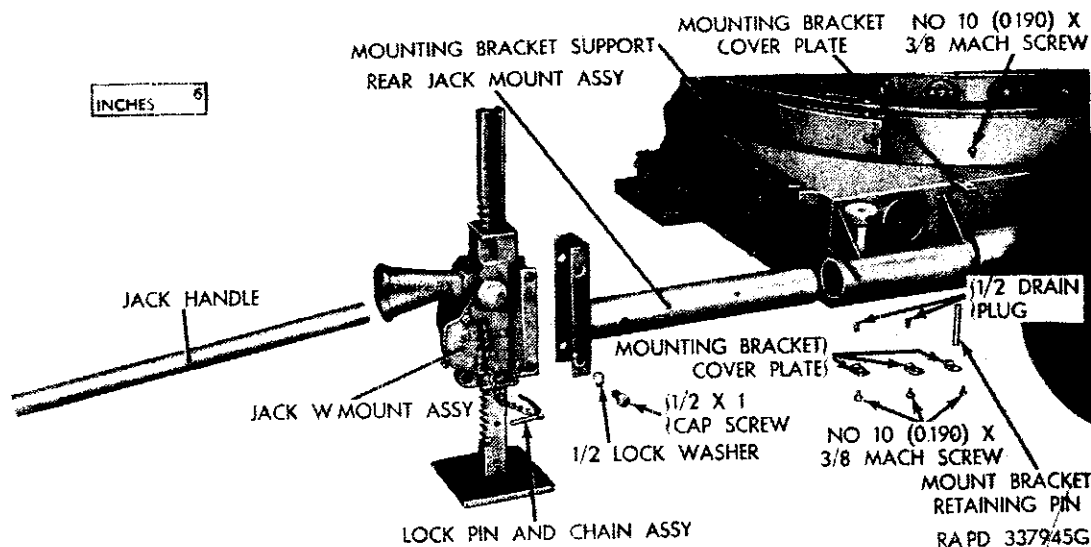
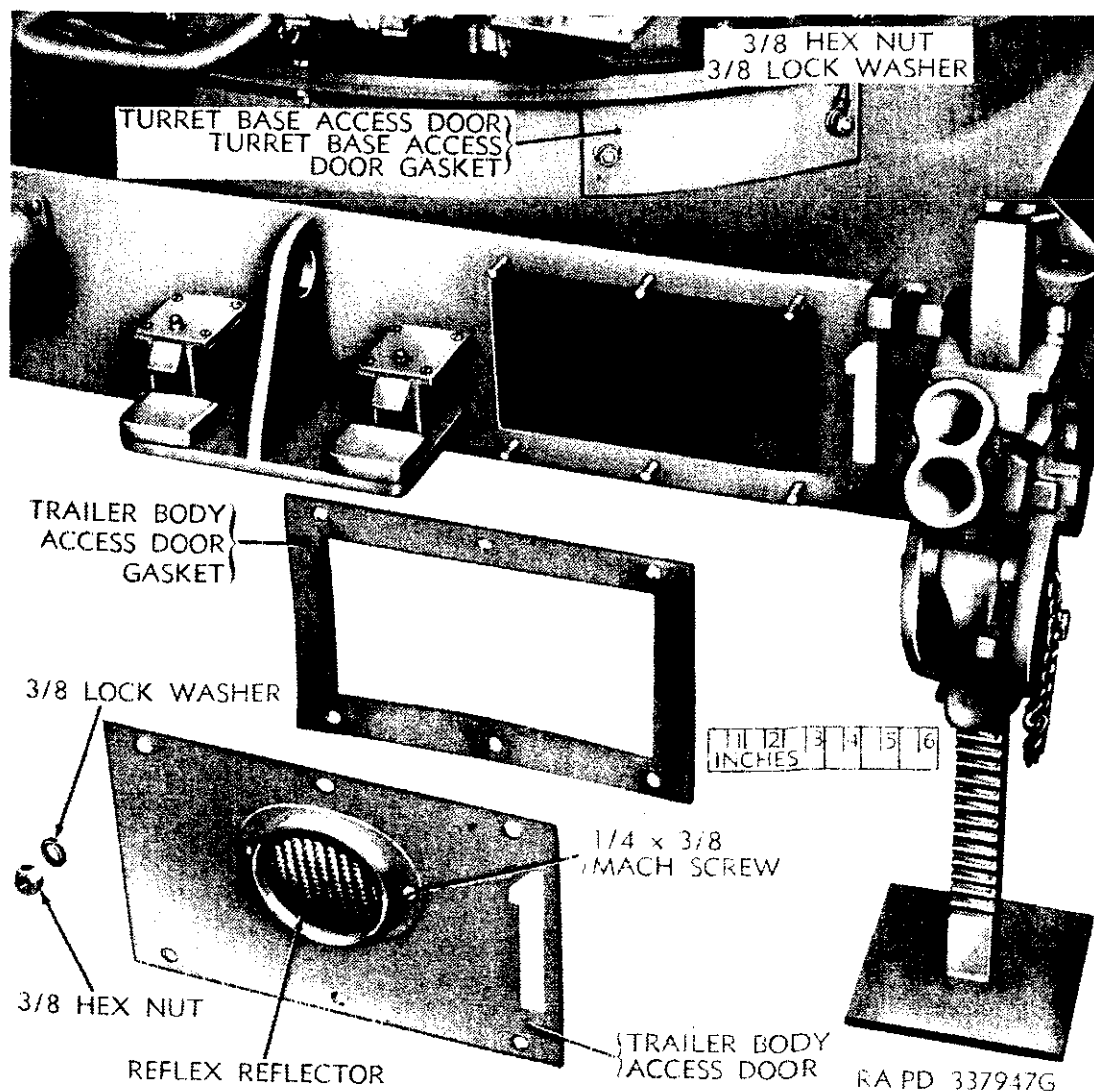

Figure 82. Rear jack with mount assembly removed from trailer.
Figure 83. Access doors.
a. *Removal of Rear Jack With Mount Assembly* (fig. 82).
- (1) Place jack in vertical position and permit its base to rest on ground free of any weight of trailer.
- (2) Remove four machine screws from upper and lower mounting bracket cover plates. Remove cover plates.
- (3) Using a punch, drive out mount bracket retaining pin through holes uncovered by cover plates.
- (4) Pull jack with mount assembly from mounting bracket support.
- (5) Remove four machine screws and two mounting bracket cover plates from bottom of mounting bracket support.
- (6) Unscrew and remove drain plugs.
- (1) Place jack in position so that its base rests on ground free of any weight of trailer.
- (2) Remove four cap screws and lock washers holding jack with mount assembly to its mounting bracket.
- (3) Remove jack with mount assembly.
*c. Removal of Trailer Body Access Doors (fig. 83).*
- (1) Remove hex nuts and lock washers holding trailer body access door to trailer body.
- (2) Remove trailer body access door with reflex reflector and gasket.
*d. Removal of Turret Base Access Door (fig. 83).*
- (1) Remove hex nuts and lock washers holding turret base access door to trailer body.
- (2) Remove turret base access door with gasket.
*e. Installation of Turret Base Access Doors (fig. 83).*
- (1) Place turret base access door gasket and door in position on studs protruding from trailer body.
- (2) Secure with lock washers and hex nuts.
*f. Installation of Trailer Body Access Door (fig. 83).*
- (1) Place trailer body access door gasket and trailer body access door with reflex reflector in position on studs protruding from trailer body.
*g. Installation of Jack With Mount Assemblies (fig. 82).* Install jack with mount assemblies in reverse order of removal (*a* and *b* above).
- a. Remove four cap screws and lock washers holding jack with mount assembly to rear jack mount assembly (fig. 82). Remove jack with mount assembly.